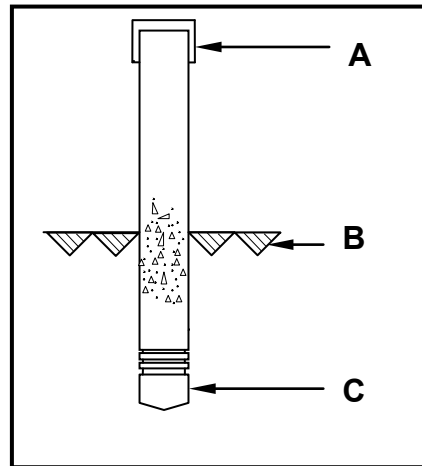

FIGURE 2.1
- 2.1 FIGURE 2.1 below is a sketch of a precast concrete pile driven into the ground.